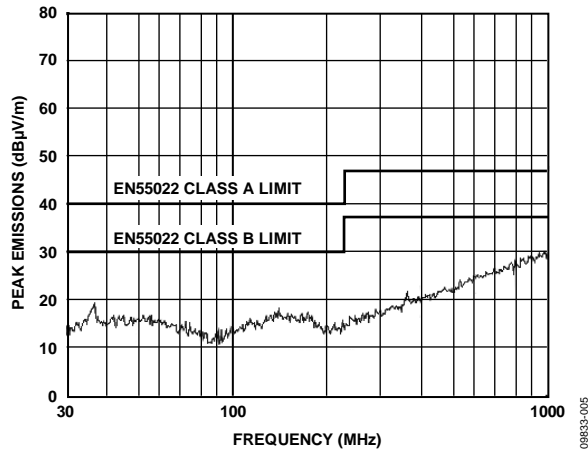
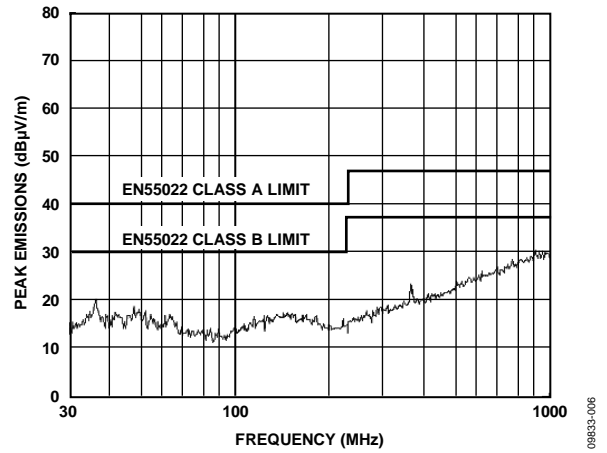

Figure 5. Horizontal Scan From 30 MHz to 1000 MHz
Figure 6. Vertical Scan from 30 MHz to 1000 GHz
The EVAL-ADM3053EBZ evaluation boards are configured and tested with 5.0 V power supplied to the ADM3053  $V_{IO}$  pin and  $V_{CC}$  pin, with the power supplied from the ADP667ARZ regulator output. The ADP667ARZ regulator input is supplied from a standard 9 V battery. Testing is performed with an active 500 kbps clock on the TXD pin supplied by an on-board oscillator fitted to U2. The ADM3053 CAN bus pins are loaded with a 60  $\Omega$  termination resistor (per a double terminated bus). Measurements are carried out in an anechoic chamber at 10 m from 30 MHz to 3 GHz. Figure 5 and Figure 6 show the results of the peak horizontal and vertical scans, and Table 2 shows the tabulated quasi-peak (QP) results.